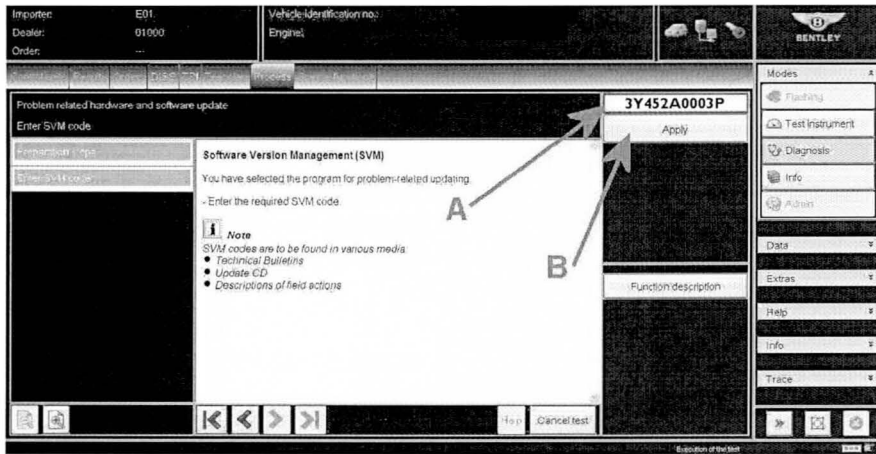

Figure 10
- 4. When prompted enter the SVM code **3Y452A0003P** as shown in Figure 10 Point A